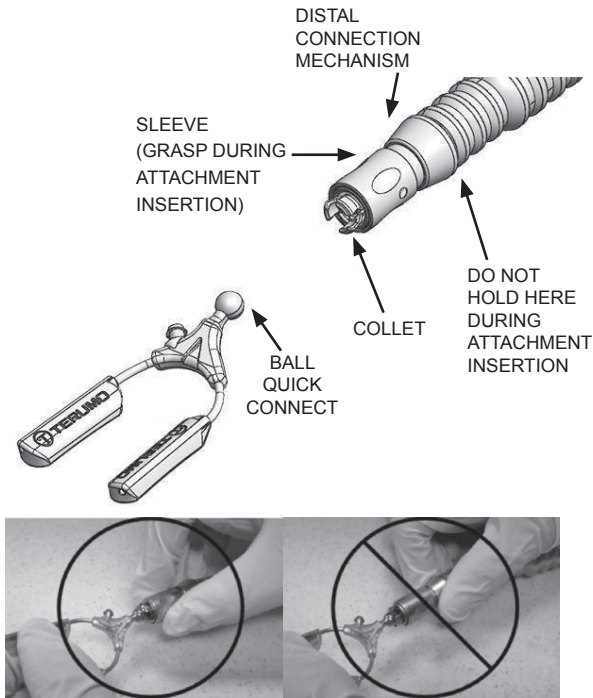

Figure 5 – Attachment of accessory device to the Hercules™ 360 Universal Stabilizer Arm (Product Reference T401160)
- b. For connection of a Terumo BALL QUICK CONNECT attachment, grasp the sleeve of the Hercules Universal Stabilizer Arm and press the ball of the attachment into the collet of the Hercules Universal Stabilizer Arm (see Figure 5). Check for secure connection.